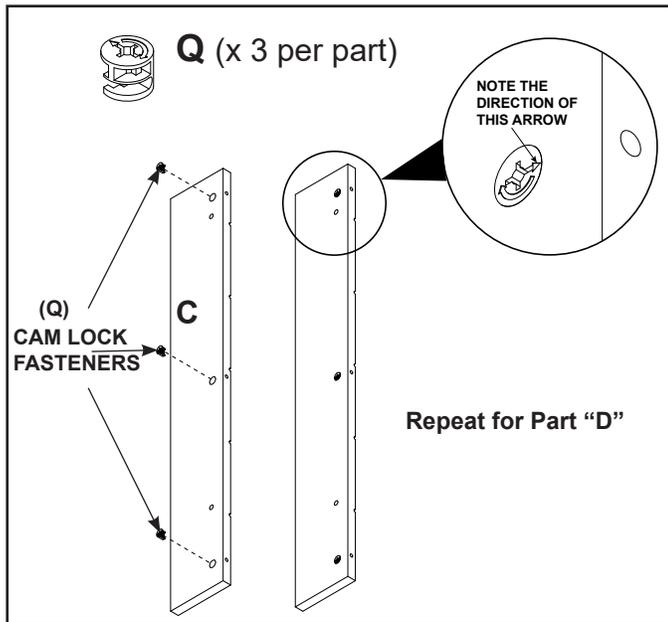

Figure 5
- Install three (3) Cam Lock Fasteners (Q) into part “C” with the arrows in the orientation shown in Figure 5.